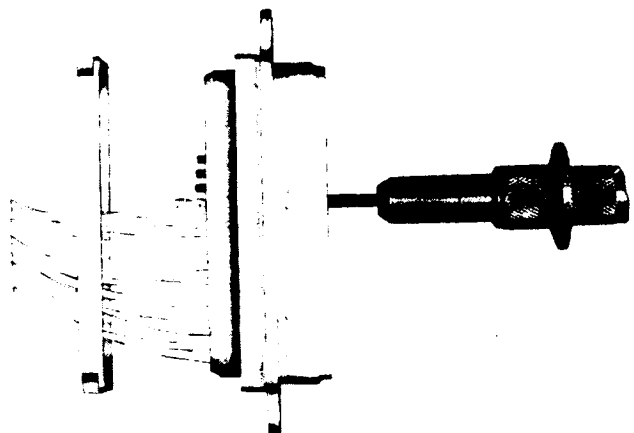

Figure 6. Removing Contacts
retaining screws from rear of connector. Remove sleeve and slide back out of the way. (See figure 6.)
3-14. Working from front face of connector, insert applicable removal tool from Table I into the insert hole until it fully bottoms. Rotating tool slightly will facilitate insertion. A slight increase in resistance will be noticed just before the tip bottoms. The design of the tool is such that the above action will spread the internal contact retention member and release its hold on the contact. Now push the spring loaded thrust assist knob fully forward. The contact is now disengaged and extending from rear of grommet as shown in figure 6. Grip back of contact and pull straight out of grommet.
b. Working from the front face (mating end) of connector, insert the 11-7880-8 Contact Removal Tool over the contact and into the insert hole. (See figure 6.) Continue to apply pressure to the tool handle until the outer tip engages and opens the metallic contact retaining bushing. A slight rotation of the tool during the removal operation will help to open the contact retaining bushing.